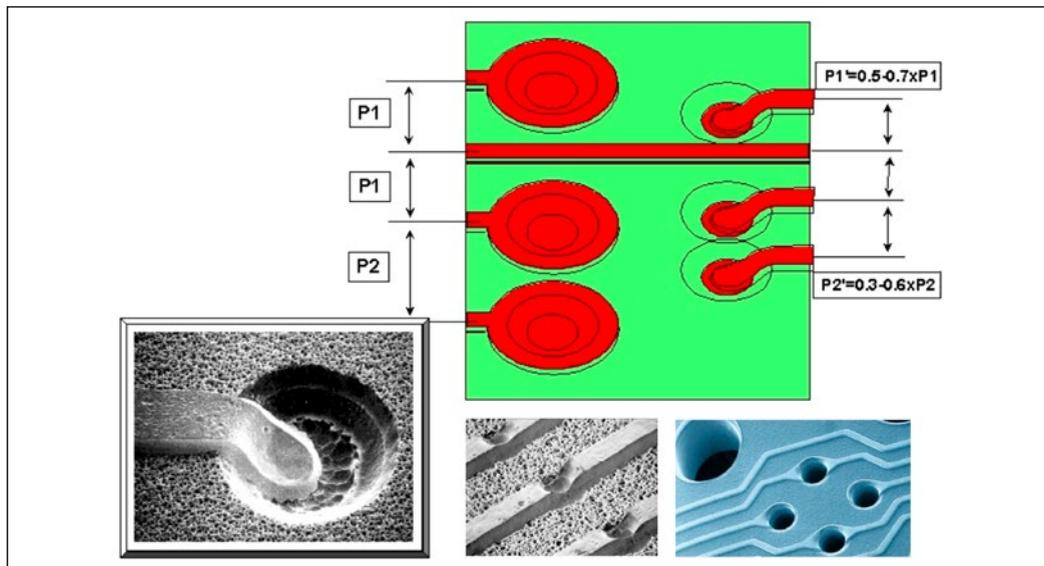

Figure 3: A variety of examples of landless vias on the outer layers of a PCB.
- Landless vias on the surface can mean higher routings (Figure 3 and Reference 4)